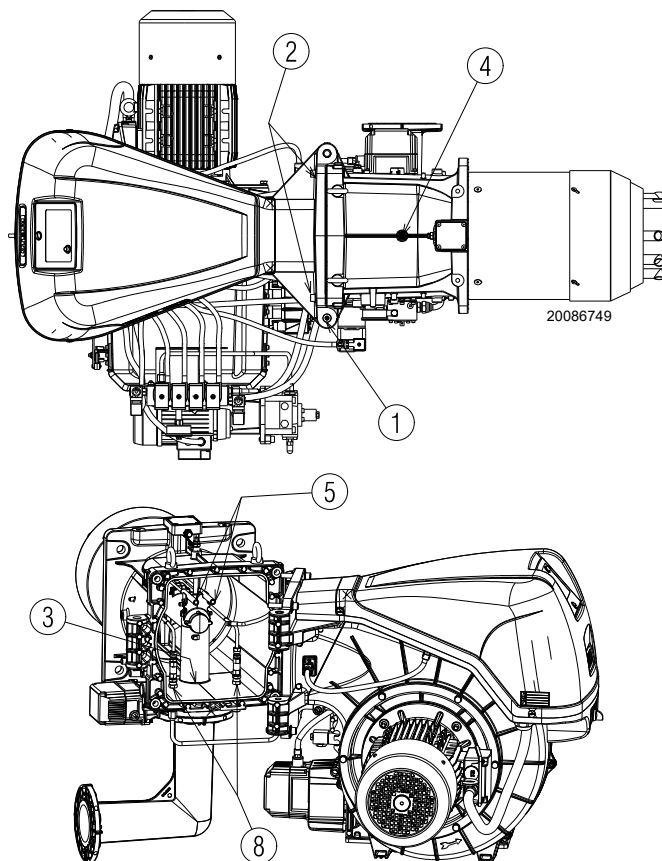

Fig. 16
The burner leaves the factory set for opening to the right, therefore maintaining the pin 1)(Fig. 16) in its housing.
- C** Fully open the burner as in Fig. 16;
To open the burner from the opposite side, before removing the pin 1)(Fig. 16), make sure that the 4 screws 2) are tight. Then shift the pin 1) to the opposite side, only then is it possible to remove the screws 2). Disconnect the socket 9 (Fig. 16) of the maximum gas pressure switch, then proceed as described above at point **C**).